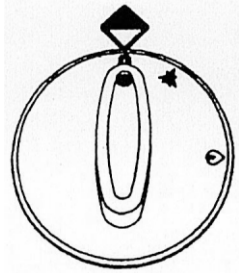

Fig. 1 - Off
- To turn off the flame -- turn the knob in a clockwise direction to the "OFF" position. Fig. 1